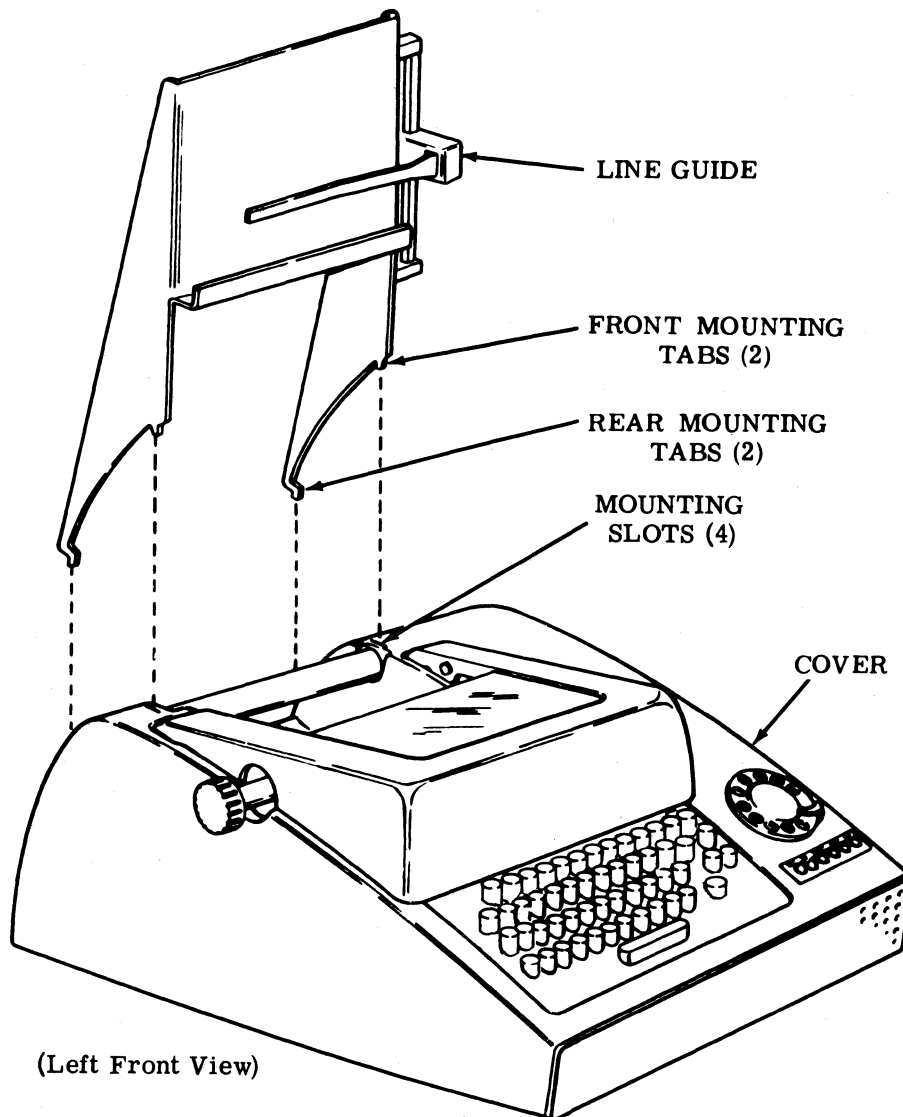

Figure 20 - Copyholder
8.01 With the line guide facing forward (Figure 20), insert the rear mounting tabs in the lower mounting slots. Pivot the copyholder to align the front mounting tabs above their mounting slots. Push copyholder downward until the tabs are fully seated.